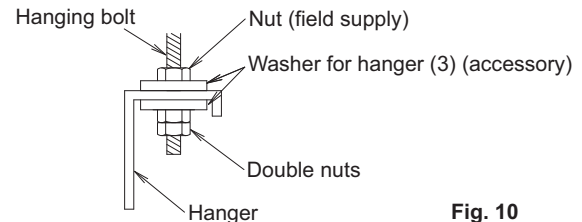

Fig. 10
- Fix the hanger to the hanging bolt. (Refer to Fig. 10)